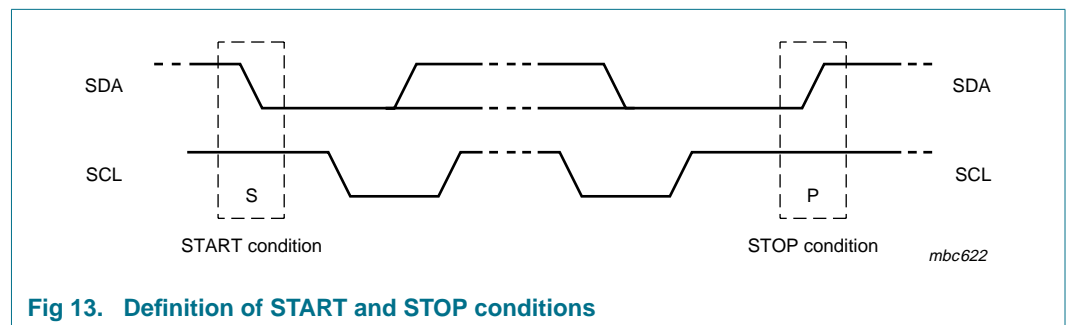

Fig 13. Definition of START and STOP conditions
Both data and clock lines remain HIGH when the bus is not busy. A HIGH-to-LOW transition of the data line, while the clock is HIGH, is defined as the START condition (S). A LOW-to-HIGH transition of the data line, while the clock is HIGH, is defined as the STOP condition (P), see Figure 13.